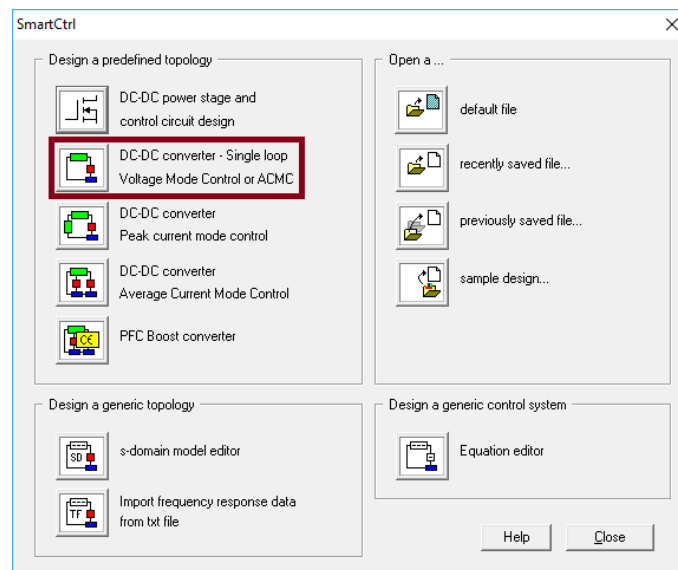

Figure 1: SmartCtrl start menu
1. Select the power converter topology and the type of control. In this case, it is a voltage mode controlled Buck converter. To start the design click in DC-DC converter – Single loop design mode control or APMC, see Figure 1.